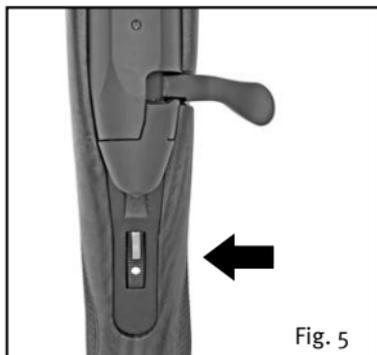

Fig. 5
Optional Lock Position (Fig. 5)
If the forward set trigger is cocked, move safety slide in lock position (Fig. 5) to automatically uncock the forward set trigger.
2. Move rotary safety to position "Lock" (Fig. 5 gray lock snaps out).
2. When reinserting the bolt into the receiver the rotary safety will be in “Lock” position (Fig. 5). Hold the bolt by the bolt handle and insert it into the receiver. When inserting the bolt, rotate the bolt so that the bolt handle slides into the slot of the receiver.